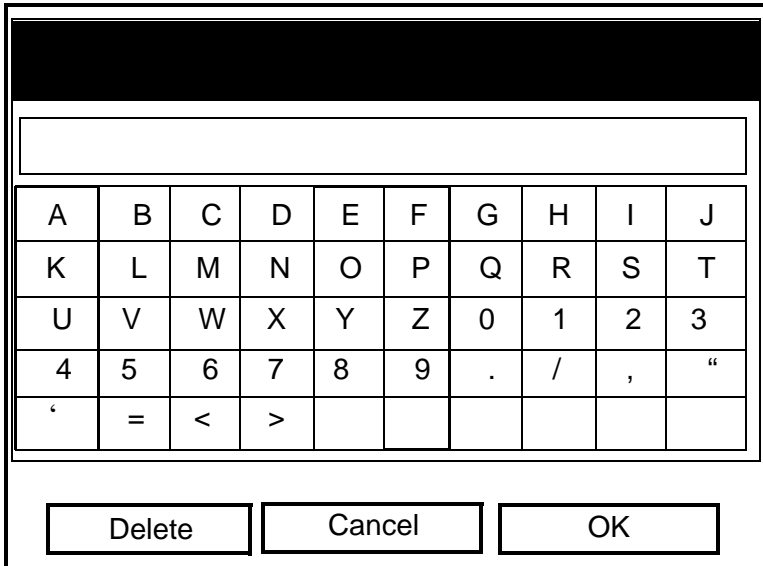

Figure 4-12: The Text Creation Window
2. Press [ENTER] to select “Message,” which opens the text creation window, shown in Figure 4-12 on the next page.